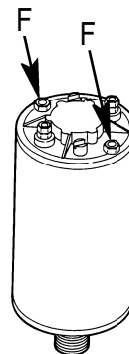

FIGURE 4
- 3 See Figure 4. Remove (2) "F" nuts and remove the end bell from the motor.